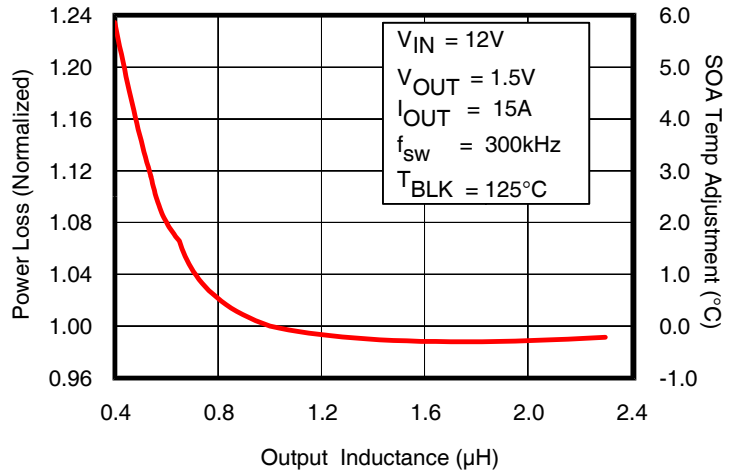

Fig. 7: Normalized Power Loss vs. Inductance
- (Fig. 7) Normalized power loss for inductor value ≈ 1.08
- (Fig. 7) Normalized SOA Temperature for inductor value $\approx +2.0^{\circ}C$